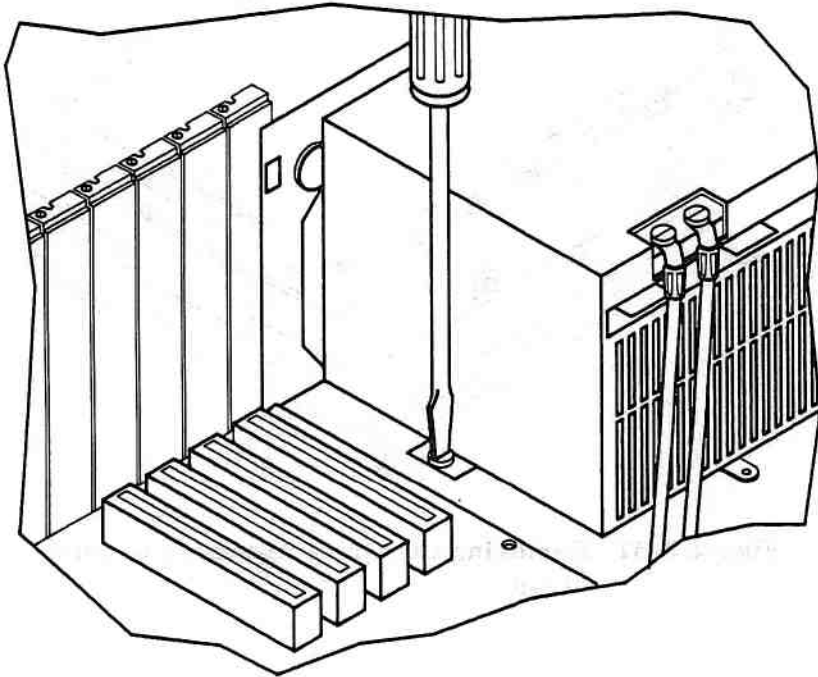

Figure 5-52. Removing the Power Supply
10. Remove the screw that secures the power supply to the chassis (Figure 5-52).